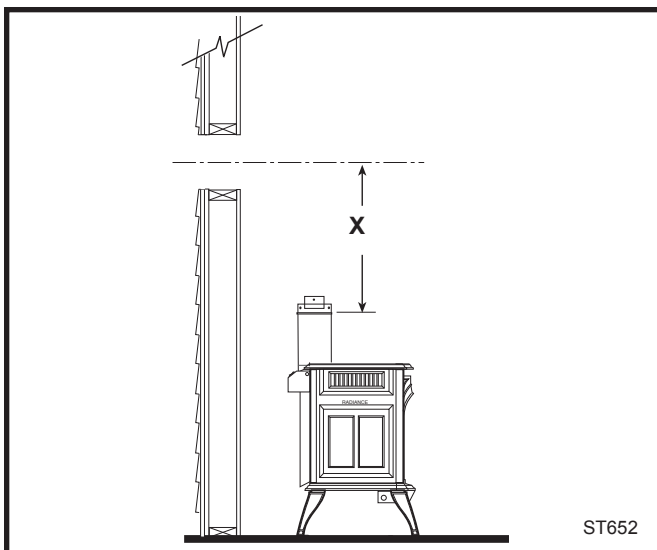

Fig. 26 Determine the vertical pipe length.
4. **For CFM Vent Pipe only:** If necessary, measure to determine the vertical length (X) of pipe required from the adapter pipe to the wall cutout centerline, including a 2" overlap at the joint. (Fig. 26) use a hacksaw or tin snips to trim the pipe as needed.